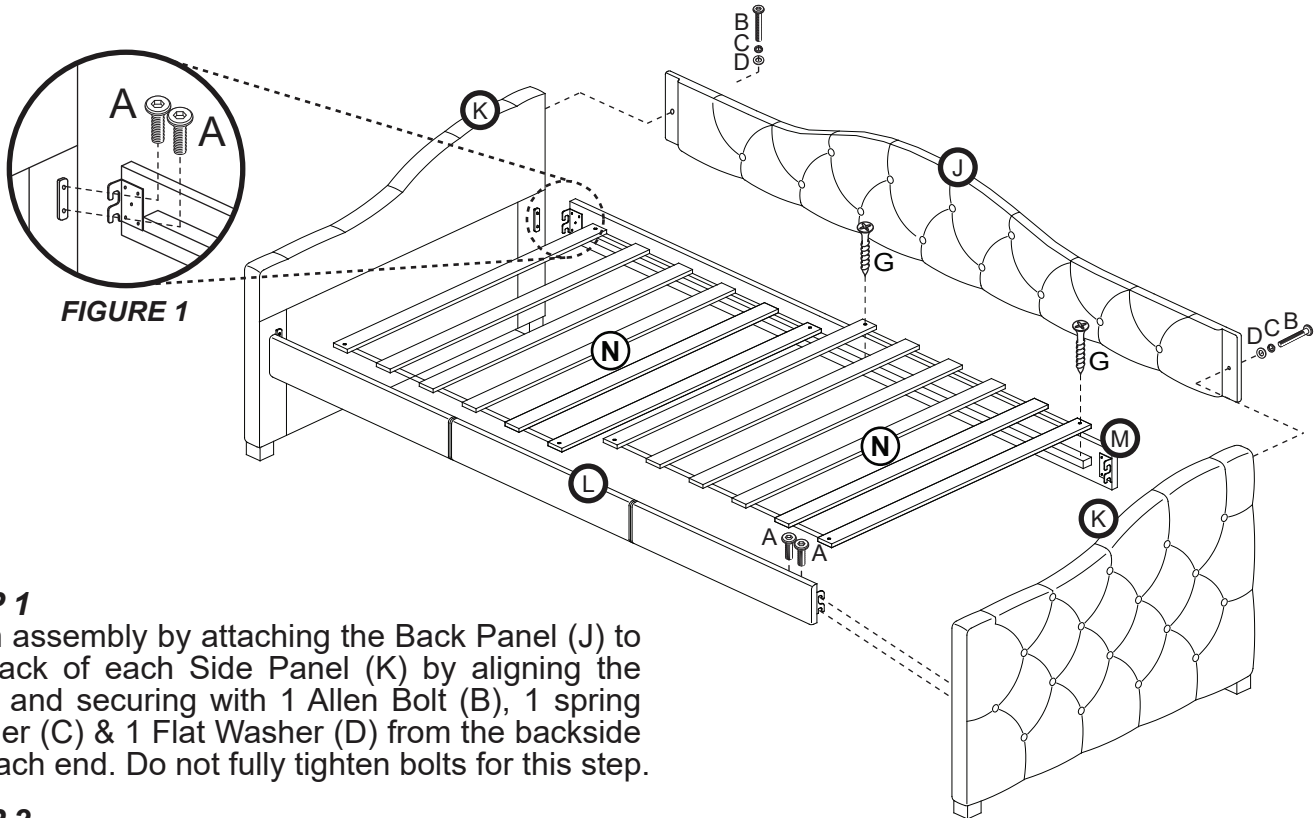

FIGURE 1
Next attach the Back Rail (M) to the inside of each Side Panel (K) by aligning the holes and securing with 2 Allen Bolts (A) per each end. **See Figure 1.** Do not fully tighten bolts for this step.